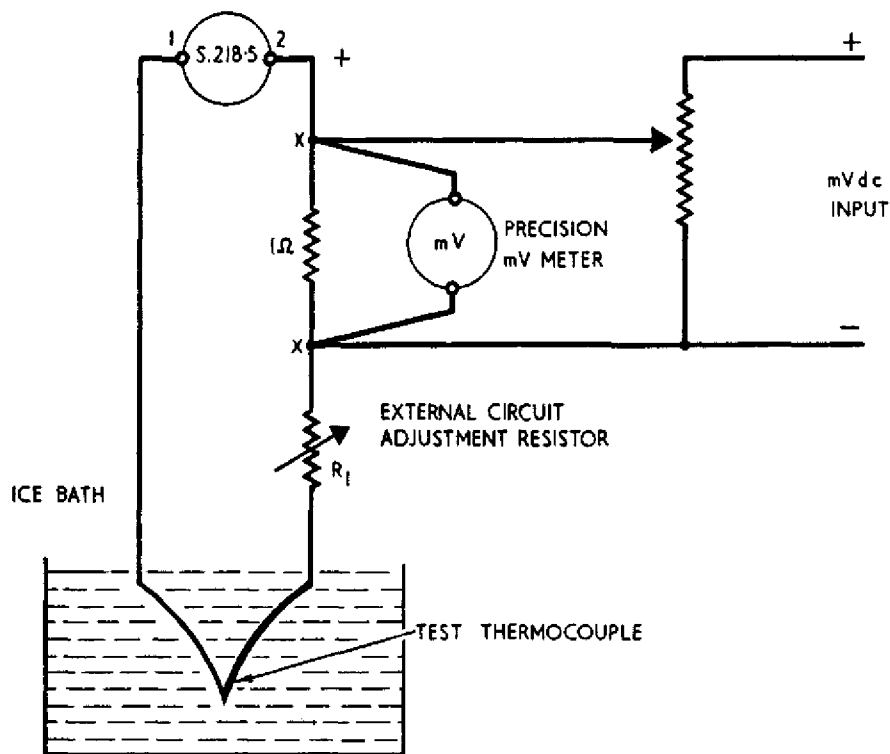

Fig.3 Test and calibration circuit
8. Testing (Figs. 3 & 4)
- (9) Pointer adjustment is made with the bottom spring abutment positioned so that the available pointer adjustment is symmetrical about the SET position. Connect the indicator into the circuit given in Fig.3 (See para.8A(2)). Inject millivolts corresponding to the SET position and then adjust the bottom spring abutment to give symmetrical movement of the pointer either side of this position when the pointer adjuster is manipulated.
- (10) Friction tests
- (a) Mount the indicator with its scale in the vertical plane and connected to the circuit given in Fig.3 (See para.8A(2)).
(11) Calibration adjustment
- (a) Connect the indicator to the circuit given in Fig.3 (See para.8A(2)).